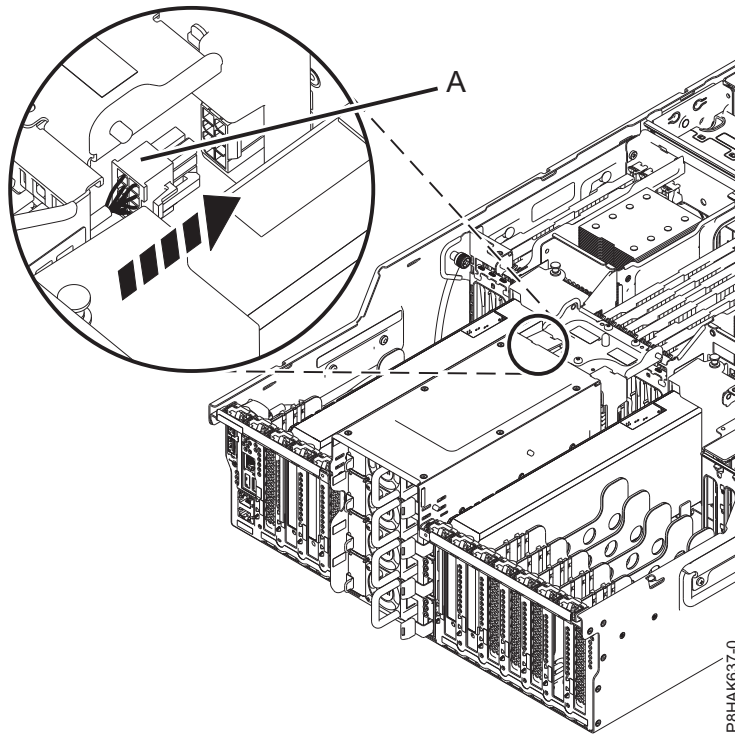

Figure 41. Connecting the power cords for the GPU adapter PCIe adapter in the 8247-42L system
6. If you are installing or replacing the PCIe gen3 x16 GPU adapter (FC EC47 or EC4B) in an 8247-42L system, connect the auxiliary power cable (A) to its connectors on the system backplane, as shown in Figure 41 on page 44. If you are installing or replacing any other adapter, go to the next step.